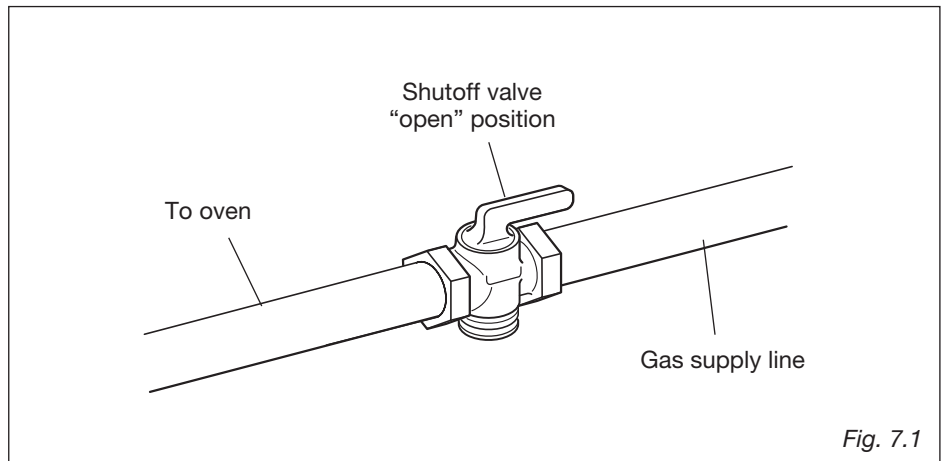

Fig. 7.1
1. Manual Shut-off Valve (fig. 7.1):